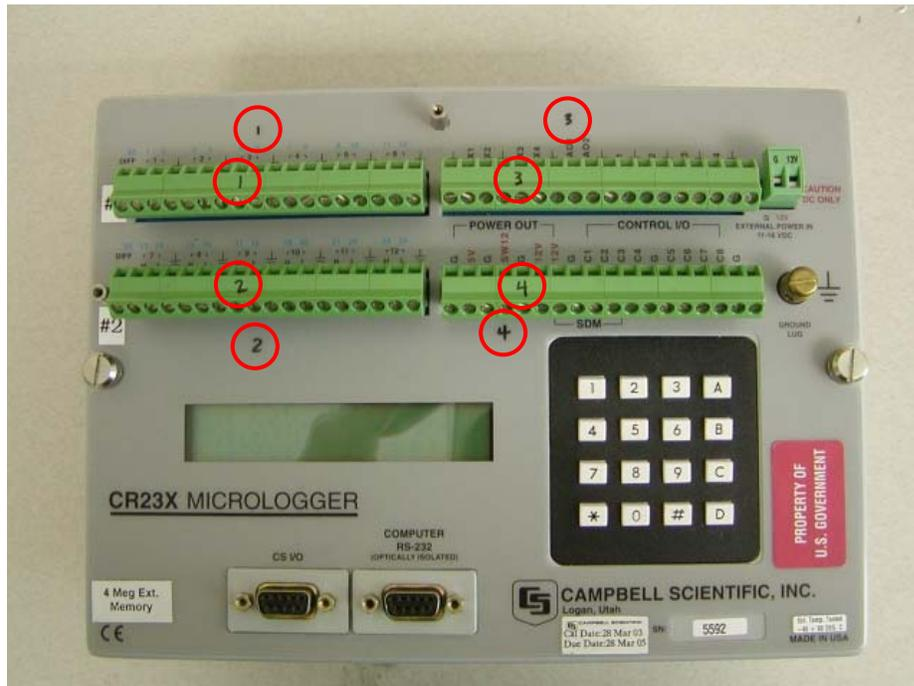

Figure 1
- With a permanent marker, mark each of the green removable wiring connectors as “1,” “2,” “3,” and “4,” and make a corresponding label on the datalogger (see Figure 1).